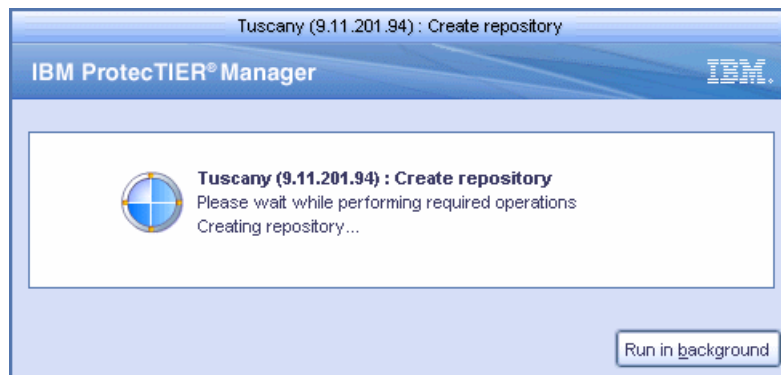

Figure 5-57 Creating repository
15. The Create repository window stay open until the repository is created (Figure 5-57).